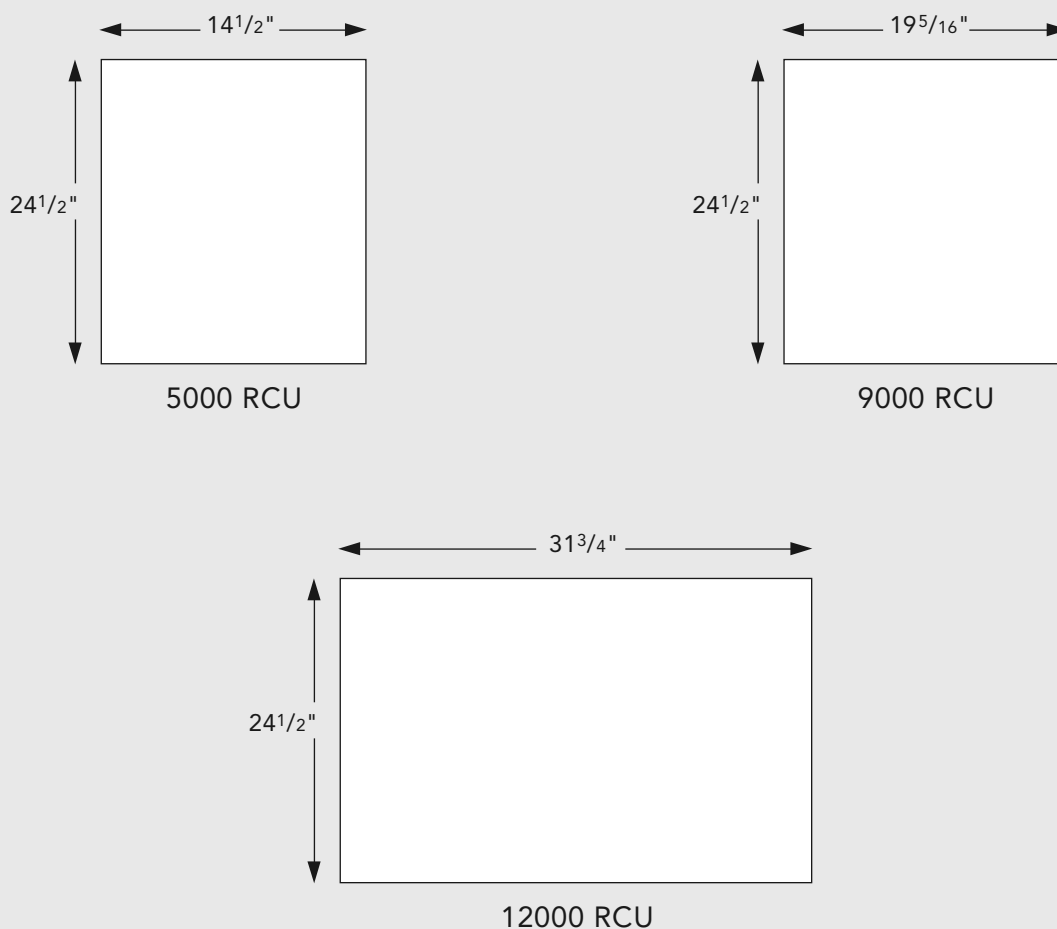

Fig. 1
- The size of the opening required to be cut for installation is shown in Fig 1.
- Prepare the opening in the wall to accept the unit as shown in Fig. 1. Depending on the wall framing layout, the 9,000 and 12,000 models may require re-framing of the opening to ensure proper support.